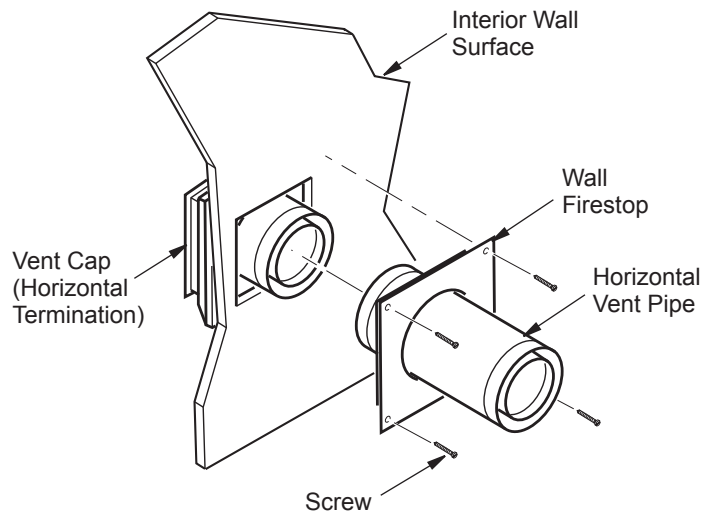

Figure 12 - Connecting Vent Cap with Horizontal Vent Pipe
7. **Combustible Exterior Wall Only:** Slide the wall firestop over the vent pipe before connecting horizontal run to vent cap (see Figure 12).
9. **Combustible Exterior Wall Only:** Slide wall firestop against interior wall surface and attach with screws provided (see Figure 12). See Figure 13, page 10 for horizontal termination details.